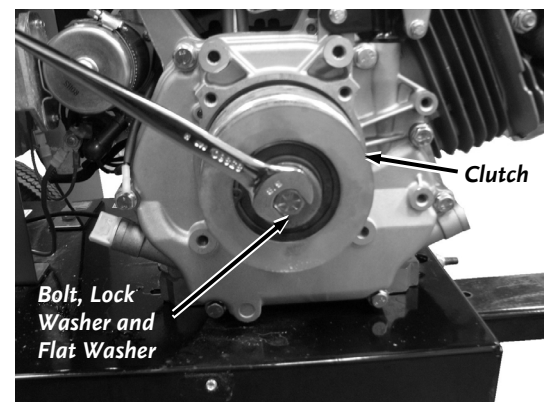

Figure 48
2. Remove the Clutch Bolt, Lock Washer and Flat Washer, using a 5/8" Wrench (**Figure 48**).